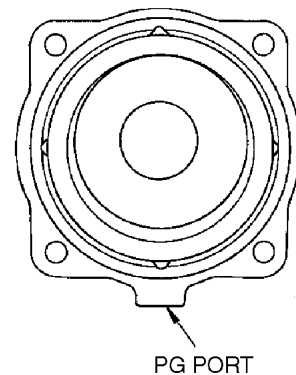

Fig. 5-13 Mounting position of separator plate
Assemble the same phases of four slits in the gears of friction plate (742). Assemble four slits in the four claws of separator plate (743) in the position of Fig.5-13.